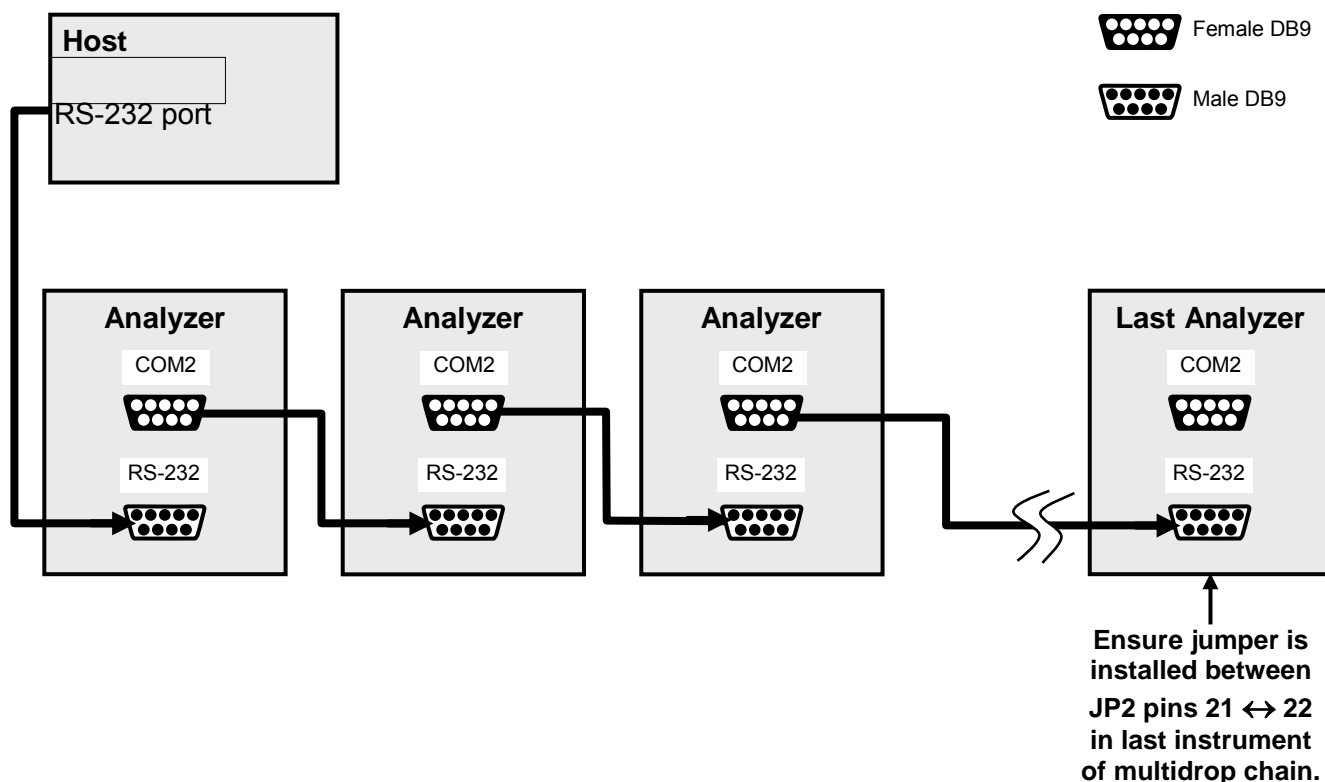

Figure 3-15: RS-232-Multidrop PCA Host/Analyzer Interconnect Diagram
4. Referring to Figure 3-15 use straight-through DB9 male → DB9 female cables to interconnect the host RS232 port to the first analyzer's RS232 port; then from the first analyzer's COM2 port to the second analyzer's RS232 port; from the second analyzer's COM2 port to the third analyzer's RS232 port, etc., connecting in this fashion up to eight analyzers, subject to the distance limitations of the RS-232 standard.